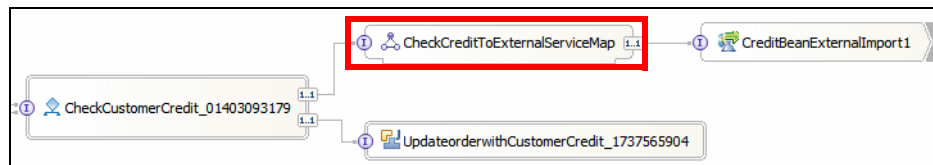

Figure 16-34 Interface map between process and Web service
- ▶ The interface map is placed and wired between the process and the Web service (Figure 16-34).